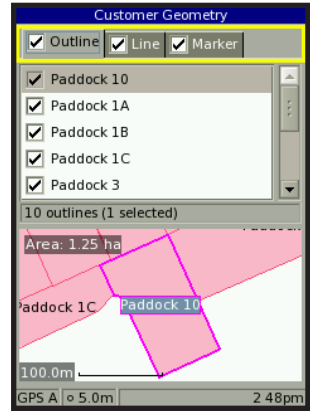

fig 10.1 Customer Geometry screen
1. Select from **‘Outline’**, **‘Line’** or **‘Marker’** on the Customer Geometry screen (fig 10.1) using  (the geometry of each section must be imported individually) and press .